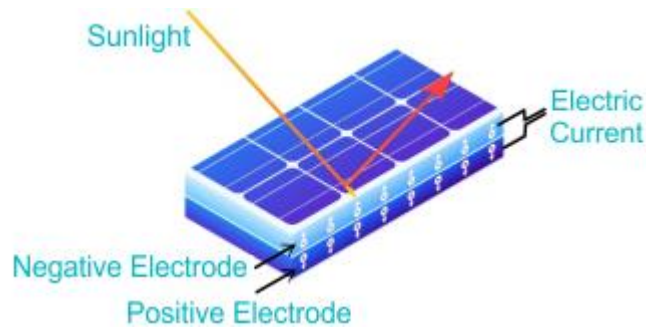

Fig.1.10 Solar Cell
A solar cell, also known as a photovoltaic (PV) cell, is the smallest component that directly converts sunlight into electricity. It typically uses semiconductor materials to create a flow of electrons when exposed to light. A typical solar cell is depicted in fig.1.10.